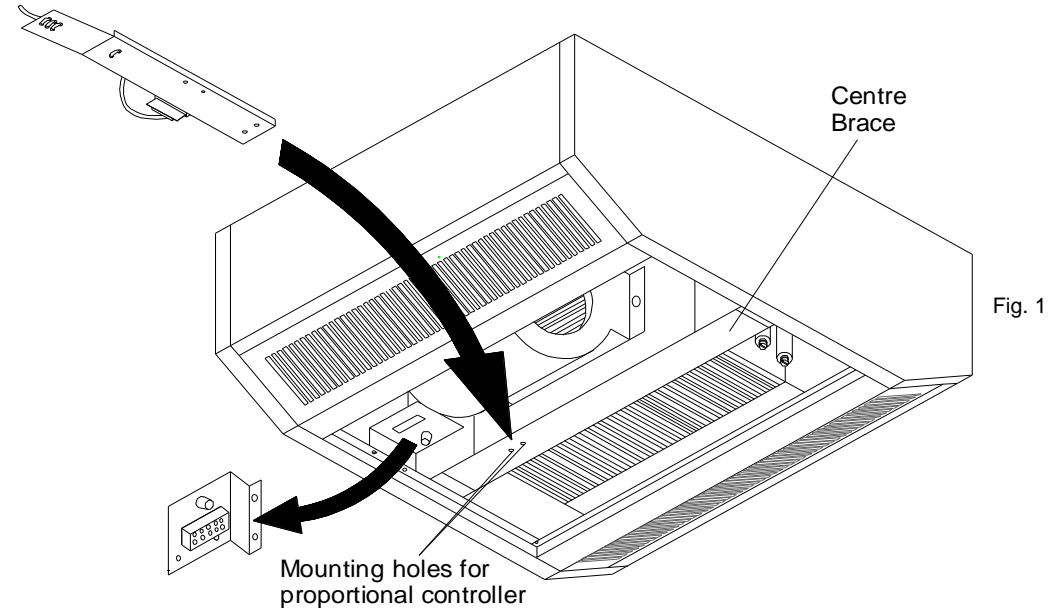

Fig. 1
2. Remove the two screws attaching the electrical panel so that it becomes loose (See fig 1). **Do not disconnect any wires at this point.**